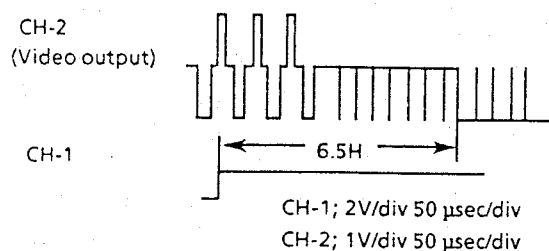

Figure 2-4.
3. Adjust R704 (phase generator M.M.) so that the waveform on the oscilloscope screen be as shown Figure 2-4.